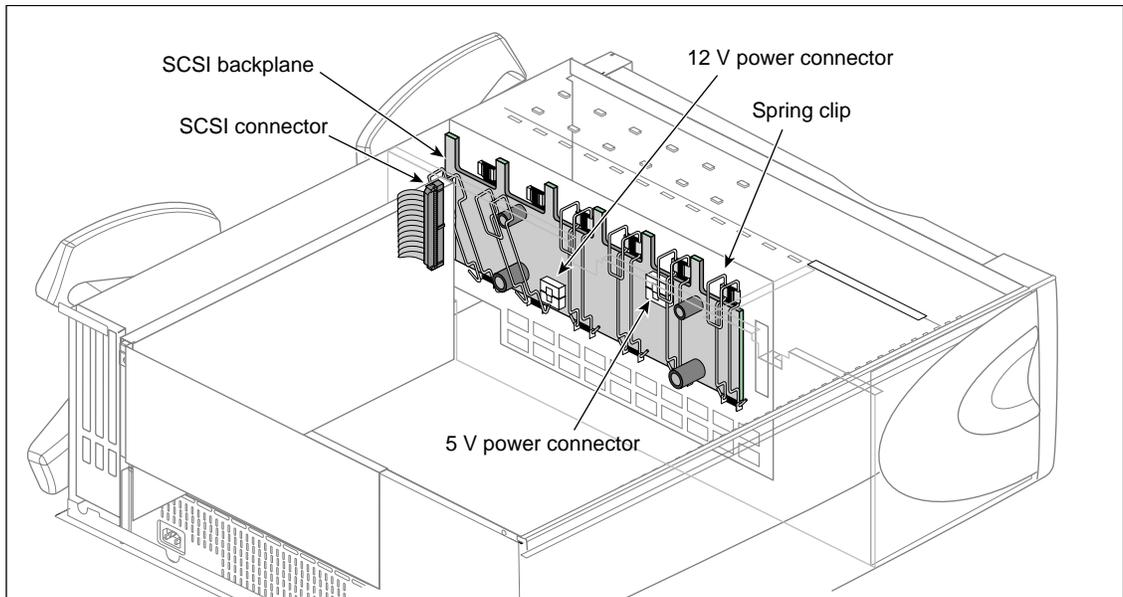

Figure 5-1 Cable Connections and Spring Clips on the SCSI Backplane
- Figure 5-1 shows the location of the 12V and 5V power connectors.
3. Snap down the six spring clips on the SCSI backplane. The spring clips are shown in Figure 5-1.